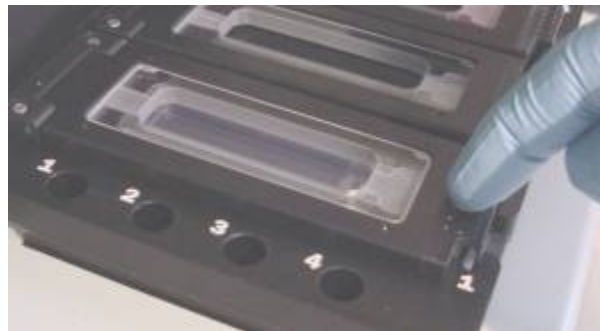

Figure 28: Closing Bay Clamp
10. Close the corresponding individual bay clamp by pushing down firmly on the textured portion of the clamp. (Fig. 28)